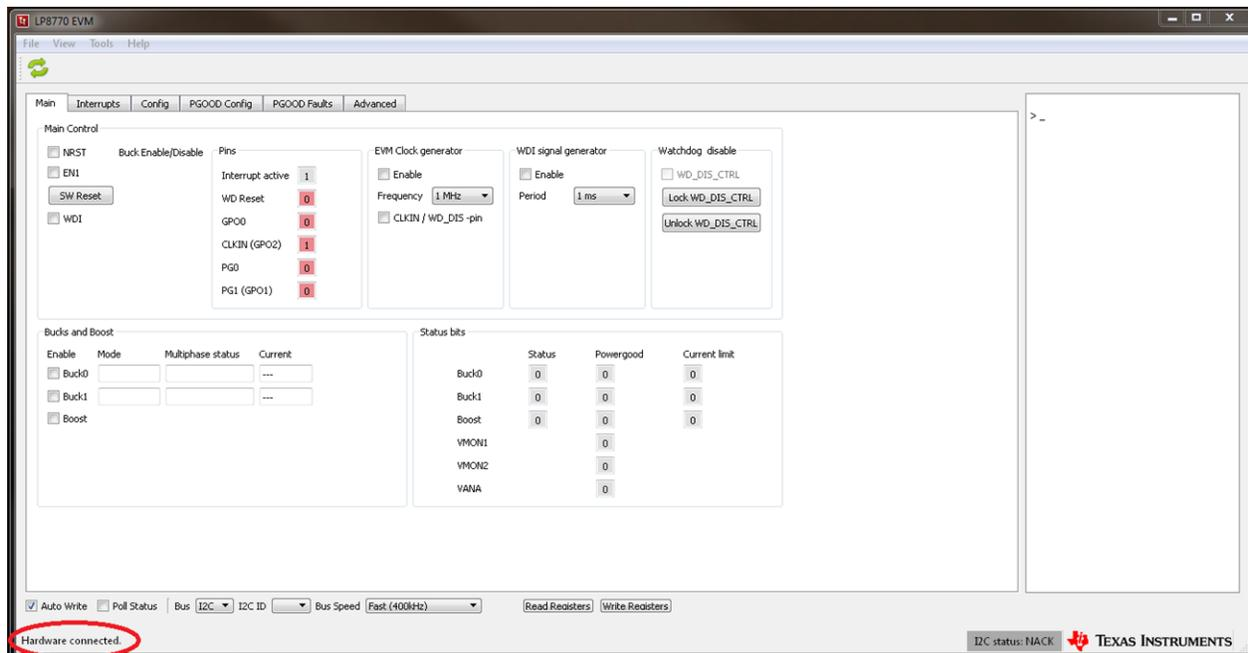

Figure 6. Evaluation Software GUI When Board is Connected
2. On the Evaluation SW window bottom left corner, user should see text "Hardware connected". Refer to Figure 6.